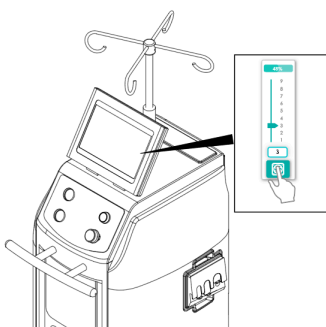

Figure 9 To Test Smoke Evacuation
- b. Tap the "Smoke Evacuator" BUTTON (Figure 9) or Depressing and Releasing the footswitch (if connected).